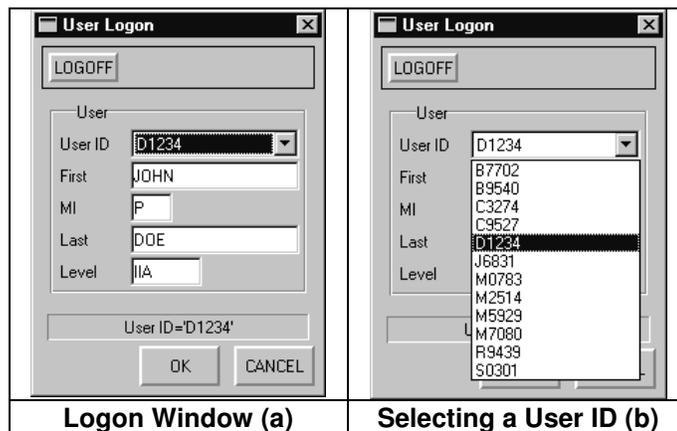

Figure 3-22. Logon Window
- Util > Logon ...**: Selecting **Logon ...** from the **Util** menu displays the window shown in Figure 3-22 (a). Logging-on is an option and is not necessary; however, it provides a way for the analyst's **User ID** to be automatically entered in the eddy current report for each tube that the user analyzes. This additional column of information, as well as many others, is only visible if the CoreStar report format is selected. Selecting various report formats will be discussed later in this section under the topic *REPORT Button*. To make a selection, simply click the **User ID** drop-down box as shown in Figure 3-22 (b), and click on the desired **User ID**. The remaining fields of the **Logon** dialog will be filled in automatically. All users' information is retained in a file (*.tbl*) located in the `\corestar\tables\users` subdirectory. This file is accessed and edited via the *EddyAdmin* utility discussed later in this topic. The **User ID's** shown in Figure 3-22 are traditionally used during the analysis of steam generator eddy current data. They are comprised of the first letter of the user's last name in conjunction with the last four (4) digits of the user's SSN (social security number). Regardless, **User ID's** can be anything the user desires.